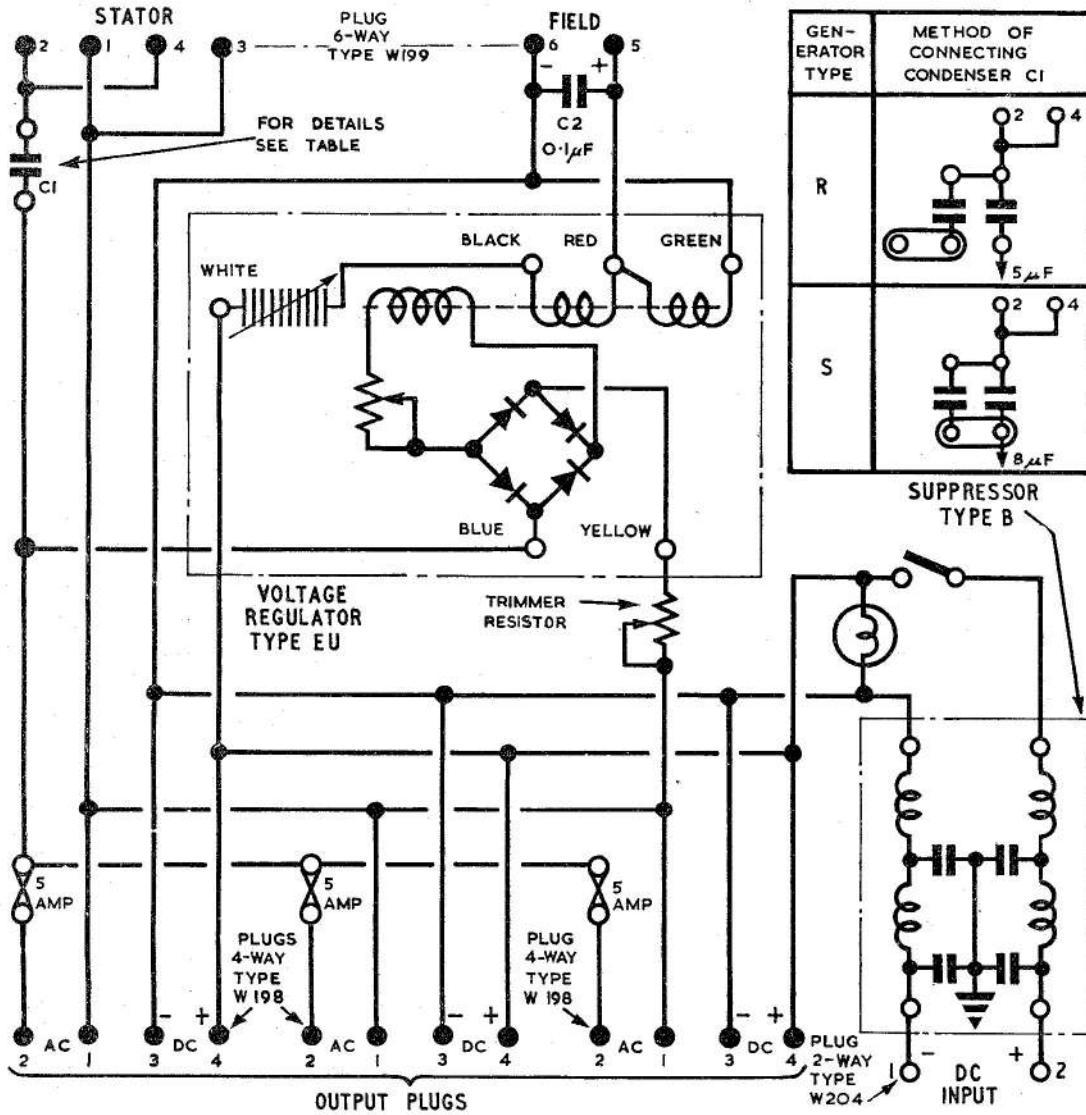

Fig. 1. Circuit diagram
3. A circuit diagram is given in fig. 1. The input from the a.c. generator is connected to a 6-pin plug on the panel, and pins 1 and 3, and 2 and 4, of this plug are paralleled to carry the a.c. supply, while the d.c. supply to the generator field is obtained through pins 5 and 6.
4. The a.c. input is fed through capacitor C1, which is fitted to compensate for the high internal reactance of the generator. The capacitor block comprises a $3\mu\text{F}$ and $5\mu\text{F}$ capacitor, with a link arrangement to enable the capacity in circuit to be varied according to the generator employed. The alternative positions of the link are indicated in fig. 1. A $0.1\mu\text{F}$ capacitor C2 is connected across the d.c. field supply, which is fed from the aircraft general services supply through a 2-pin plug and a suppressor, Type B, and through the carbon pile of the voltage regulator, Type EU.